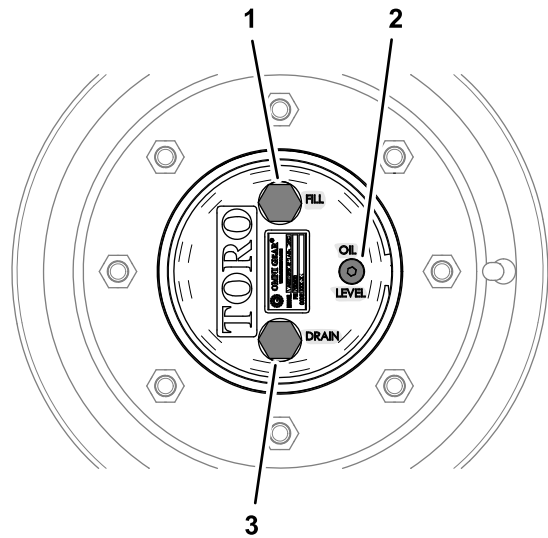

Figure 83
1. With the machine on a level surface, position a wheel so that the fill plug is at the highest (12 o'clock) position and the drain plug is at the lowest (6 o'clock) position (Figure 83).
1. With the machine on a level surface, position a wheel so that the fill plug is at the highest (12 o'clock) position and the drain plug is at the lowest (6 o'clock) position; refer to Figure 83 in Checking the Planetary-Gear-Drive Lubricant (page 65).